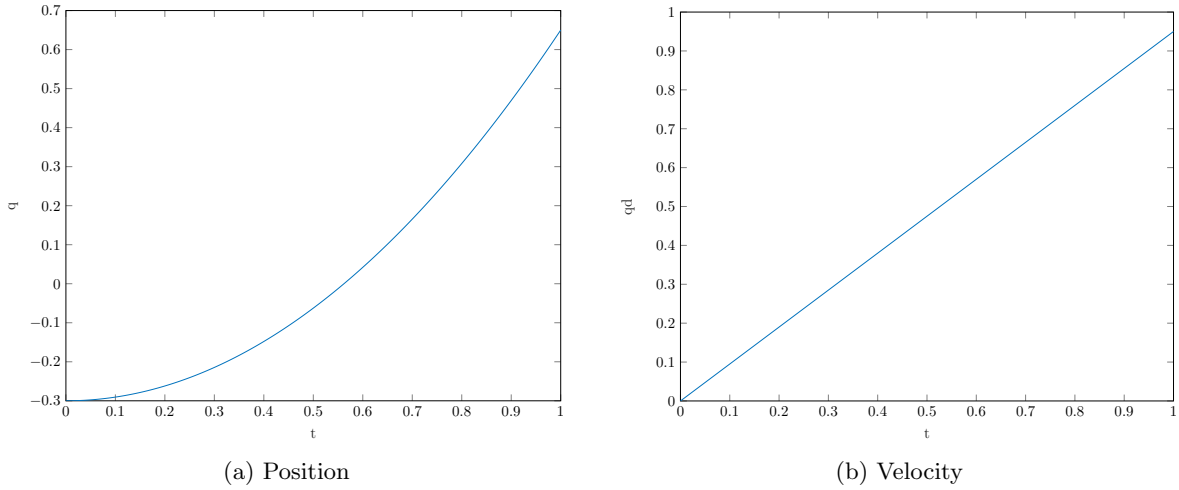

Figure 3: Example of a constant acceleration trajectory with a linear ramp in velocity.
- **Constant acceleration/linear velocity ramp:** The trajectory in fig. 3 comes from the constraints: $q(t = 0) = q_0$, $q(t = T) = q_{\text{end}}$, $\ddot{q} = K$, where K is a constant.